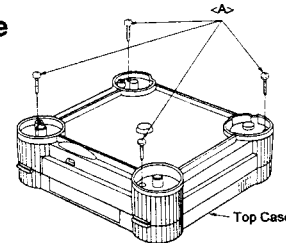

Figure 1
- (1) Turn this unit (FZ-1) upside down and place it on a flat surface.
- (2) Remove four screws <A> (3 × 14 mm) as shown in Figure 1.
- (3) Turn it over again and gradually raise the top case.